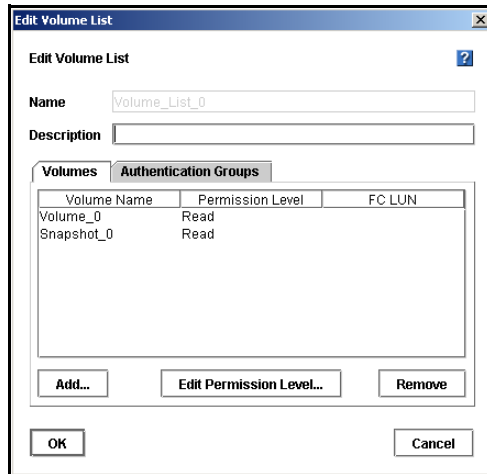

Figure 205. Opening a Volume List to Edit
4. From the Tasks menu, select Edit Volume List. The Edit Volume List window opens, shown in Figure 205.
1. In the Edit Volume List window, shown in Figure 205, select the Authentication Group tab.
1. In the Edit Volume List window, shown in Figure 205, on the volumes tab, select the volume or snapshot you want to remove from the volume list.